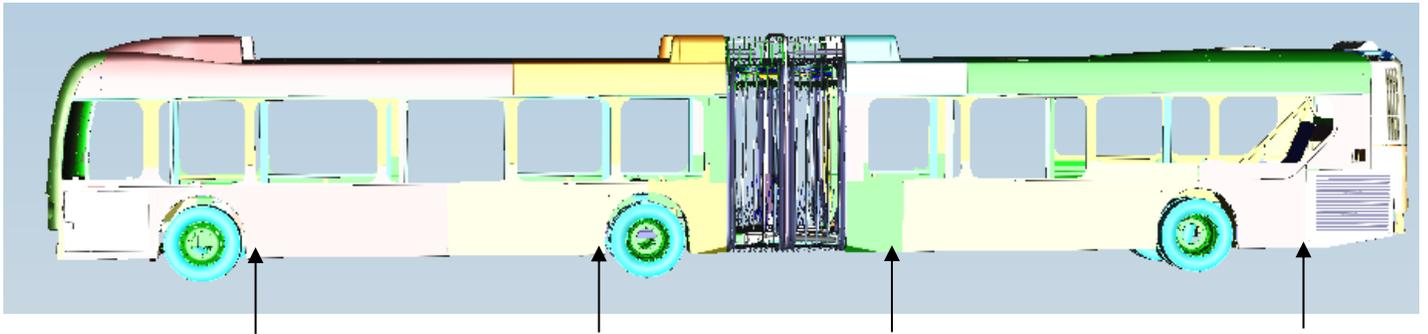

FIGURE 1: JACK STAND LOCATIONS (60 FOOT)
4. Support the front, center, and rear of the coach with jack stands at the jacking pad locations (8 places). There should be no weight on the wheels of the bus. **See Figure 1.**